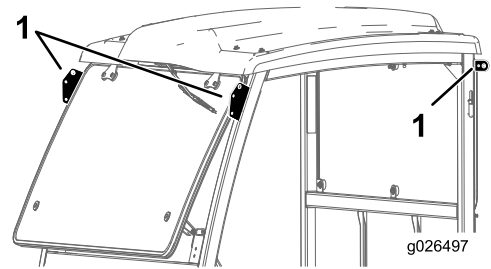

Figure 4
- Lift the cab frame using the lifting points and place it on the machine (Figure 4).